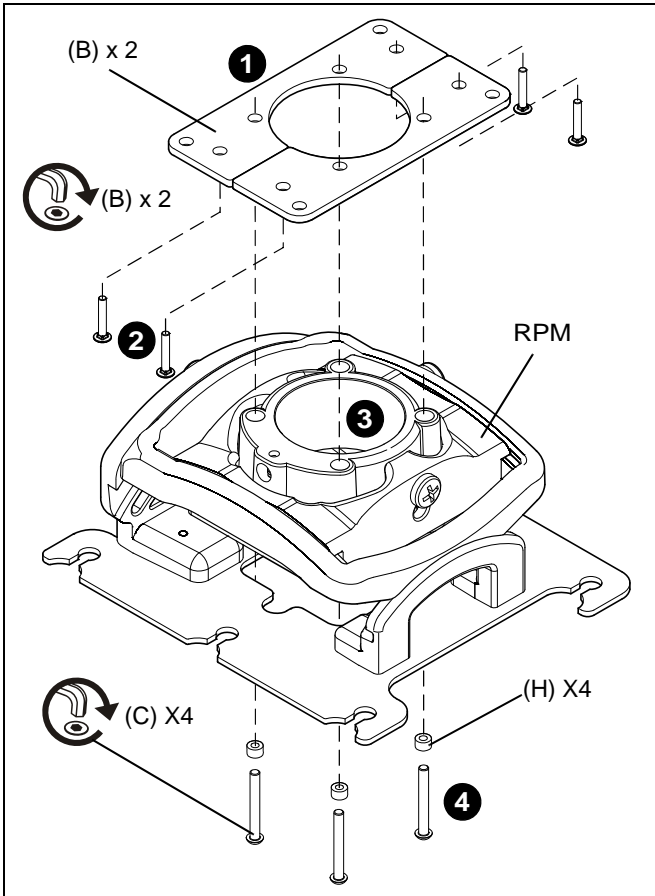

Figure 4
1. Install projector arm (A) following the previously described instructions. (See *Projector Arm Installation*)
2. Orient two interface plates (B) as shown in figure below.
3. Align mounting holes in interface plates (B) with holes in RPM. (See Figure 4)
4. Place one Nylon spacer (H) onto each of four 1/4"-20 x 1-1/2" button head cap screws (C). (See Figure 4)
5. Insert four 1/4"-20 x 1-1/2" button head cap screws (C) with nylon spacers (H) through bottom of the RPM and into two interface plates (B). (See Figure 4)
6. Tighten screws until two interface plates (B) are snug against RPM.